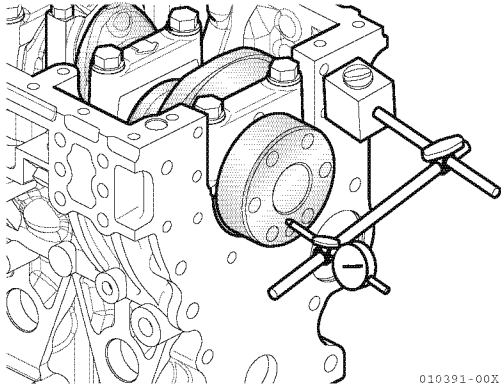

Figure 5-111
- After assembling the crankshaft, tighten the main bearing caps to the specified torque, and move the crankshaft forward and aft. Place a dial gauge on one end of the crankshaft to measure thrust clearance (**Figure 5-111**). Replace the thrust bearing if it exceeds the limit.